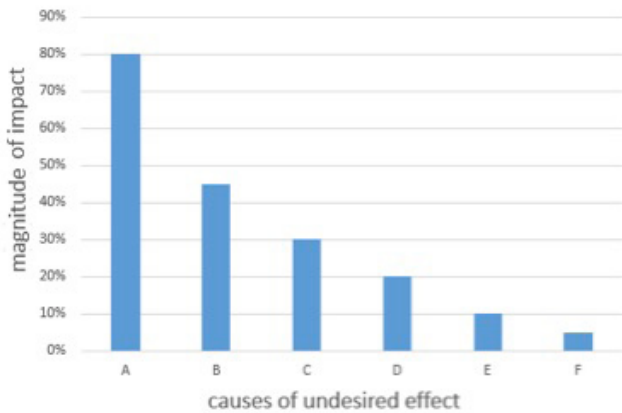

Figure 4. Pareto Chart
- Roughly quantify and rank causes on a Pareto Chart histogram (Figure 4) so it becomes clear that causes with the greatest impact on the desired outcome need to be tackled first.